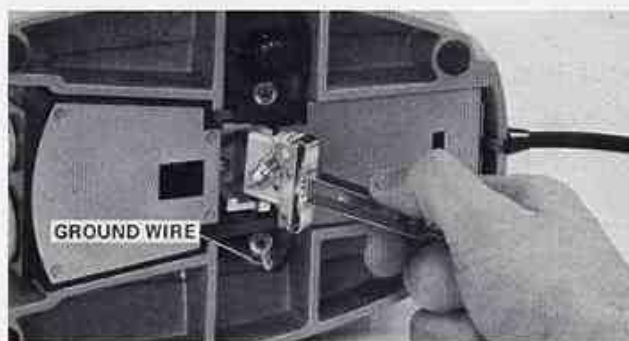

Figure 28. Removing Lamp Socket
2. Use wide end of Tool to remove the Lamp Socket Assembly from the Illuminator (Fig. 28).